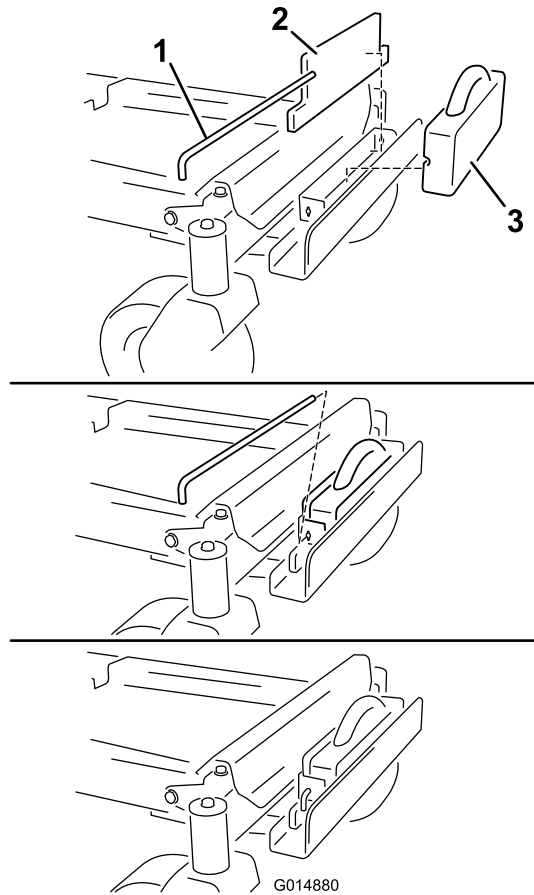

Figure 9
9. Install a suitcase weight in front of the flat weight (Figure 9).
10. Secure the weights to the weight bracket with a keyed crossbar (Figure 9). Install the bar and rotate it 90 degrees downward to lock it in place.